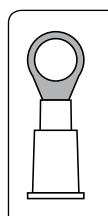
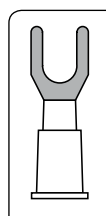

Fig 8.2
Fig 8.3
- 4 pieces of Fork Terminals (Fig 8.3) have been supplied for crimping on to the wire ends on the Controller side. 2 pieces of Ring Terminals (Fig 8.2) have been provided for crimping on the wire ends on the battery side.
11. Crimp the bare end of the wires with the fork terminals provided (Fig 8.3).